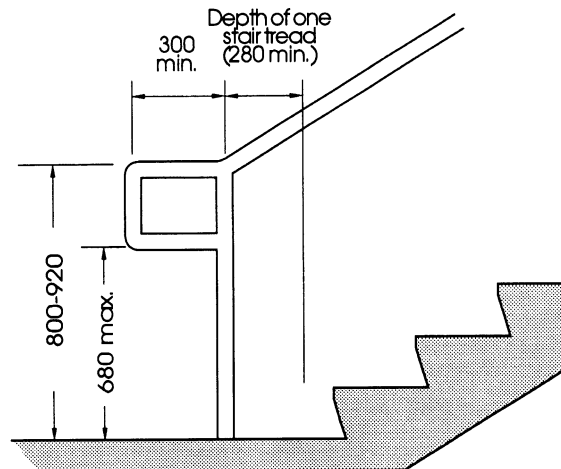
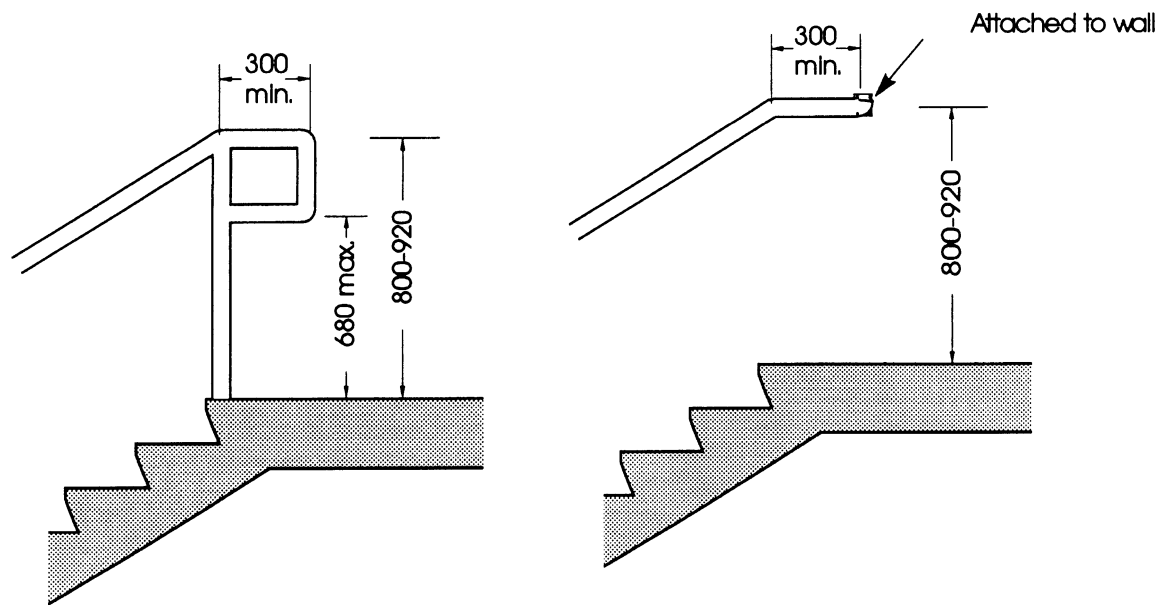

Figure 4
Figure 5
- The handrails should extend 300mm (12 inches) beyond the top and bottom step to assist persons with mobility and visual impairments. Illustrated in CSA Figure 4 below & Figure 5 on the following page.